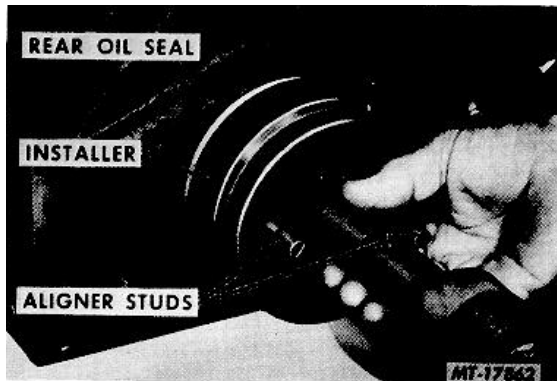
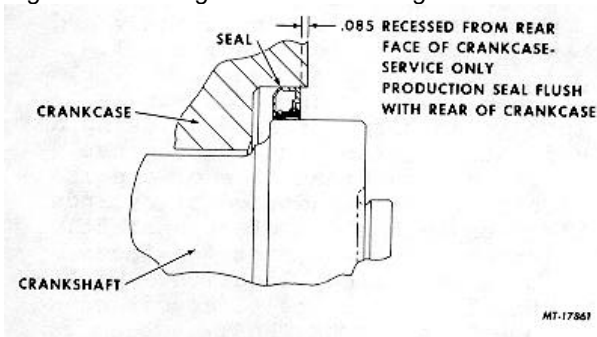

Fig. 110. Installing Rear Oil Seal Using SE-2092 Installer
Fig. 111. Proper Location of Rear Oil Seal
- c. Place seal over end of crankshaft, aligning seal with crankcase bore. Position SE-2092-1 Installer (Fig. 110) over the aligner studs. Drive seal into bore until seal is in proper location (Fig. 111). Remove installation tools.